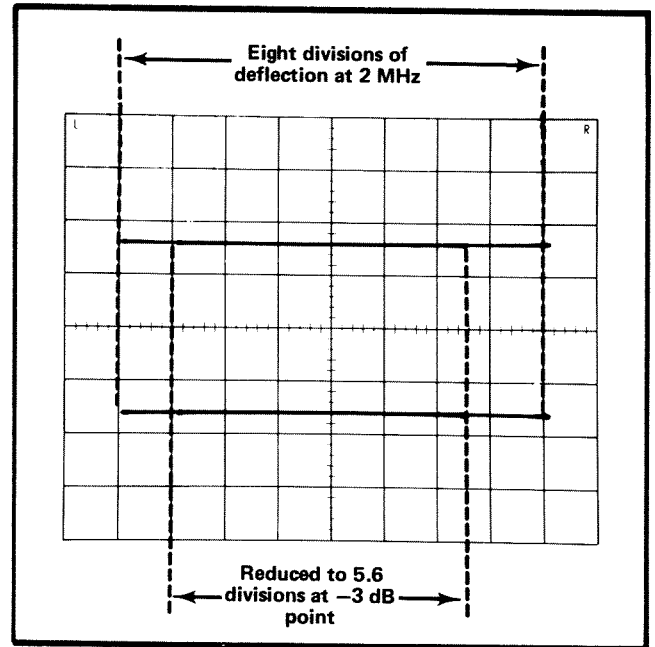

Fig. 5-18. Typical CRT display when checking horizontal bandwidth (double exposure).
d. CHECK—Both horizontal amplitudes should not be reduced to less than 5.6 divisions (–3 dB point for a 2 MHz signal; see Fig. 5-18).